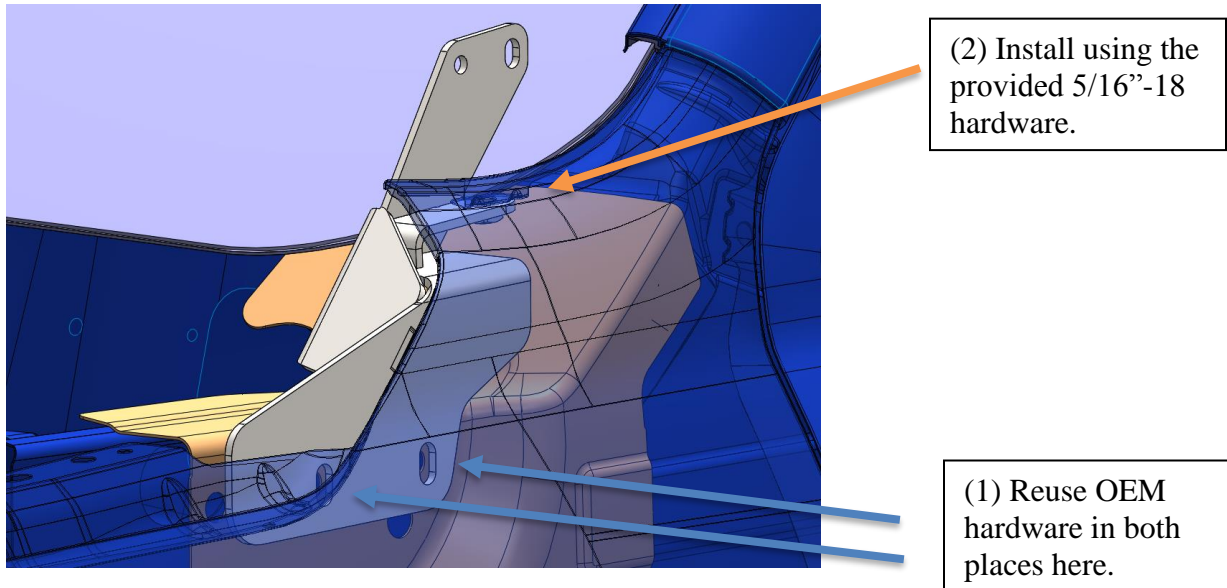

Fig 8
- Position the driver side bracket as pictured in Fig 8.
- Loosely install the two factory bolts as shown in Fig 8 item (1).